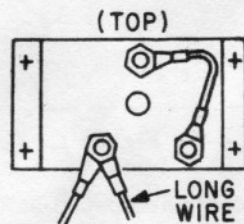

Figure 5. Power Disconnect - Rear View
11. Thread the long wire through the undercarriage harness tubing into the lower control cabinet and connect it to the rear of the Power Disconnect Switch with existing wires numbered "2" as shown in Fig. 5. Dress the wire into the harness using wire ties and keep the wires clear of the steering gear.
8. Connect the long wire of the receptacle to the rear of the Power Disconnect Switch with existing wires numbered "2" as shown in Fig. 5.